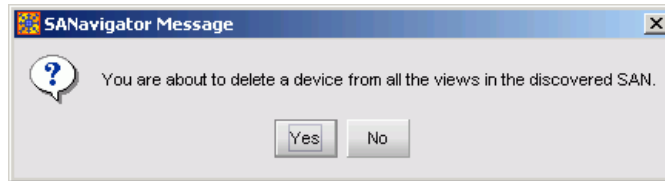

Figure 3-33 SANavigator or EFCM Message Dialog Box
- b. Select the *Delete* option from the pop-up menu. The *SANavigator* or *EFCM Message* dialog box displays (Figure 3-33).